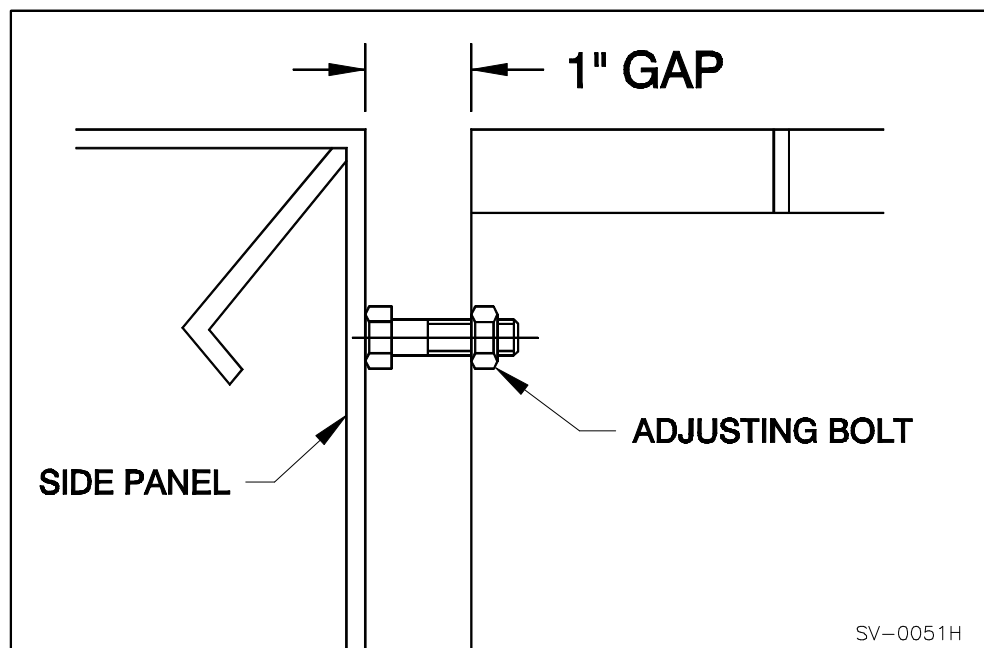

Figure 43: One Inch (1”) Gap
5. ___ Ensure there is a one inch (1”) gap between the deck and side pan curb angles. Confirm this on both sides of the dock leveler. Once the gaps are confirmed as correct, ensure the adjusting bolts are in contact with the side panels. See “Figure 43: One Inch (1”) Gap” on page 34. Use the adjusting bolts to increase the gap to 1” if required.
11. Once the concrete is cured, remove the side adjusting bolts. (see “Figure 43: One Inch (1”) Gap” on page 34)